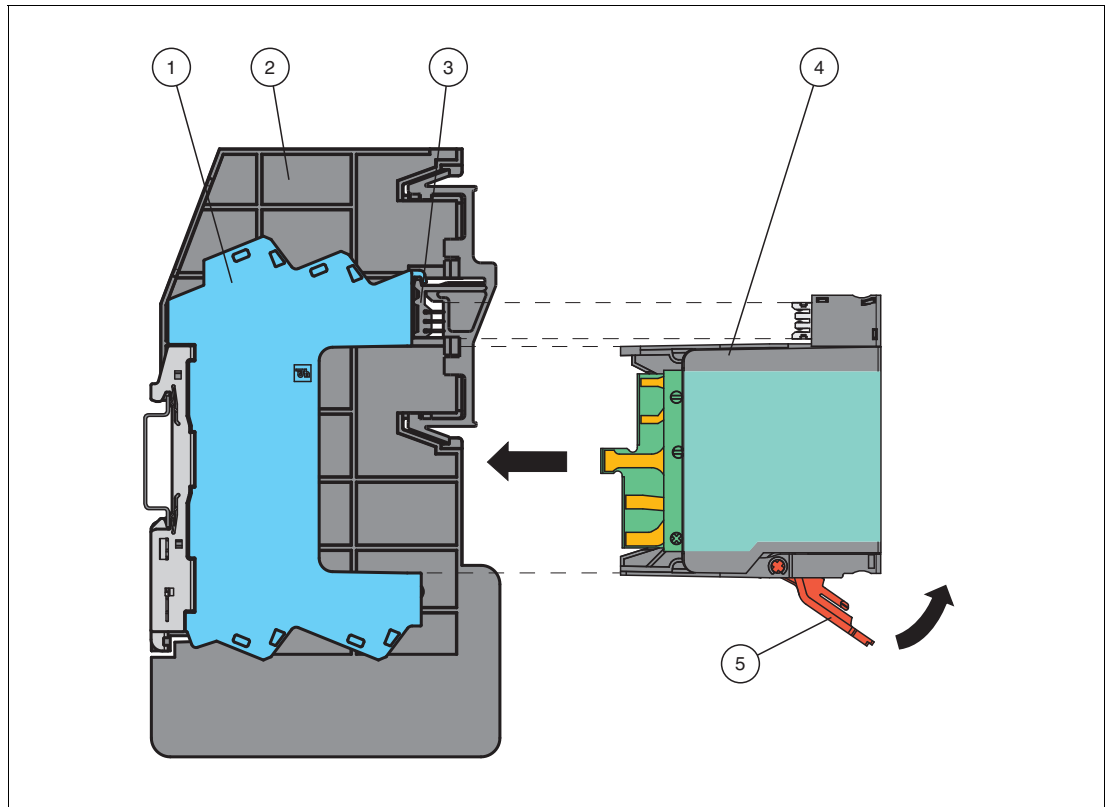

Figure 3.4 Mounting the module
Open the locking lever before inserting the module. See Figure 3.4
1. Observe the correct mounting position and the correct adjustment of the contacts on the Universal Power Rail (3). For other mounting positions of the protection modules see chapter 4.1.
2. Open the locking lever (5).
3. Carefully insert the module (4) into the base module (1) until the module engages. See Figure 3.4
4. Press the red locking lever (5) upward to the end position